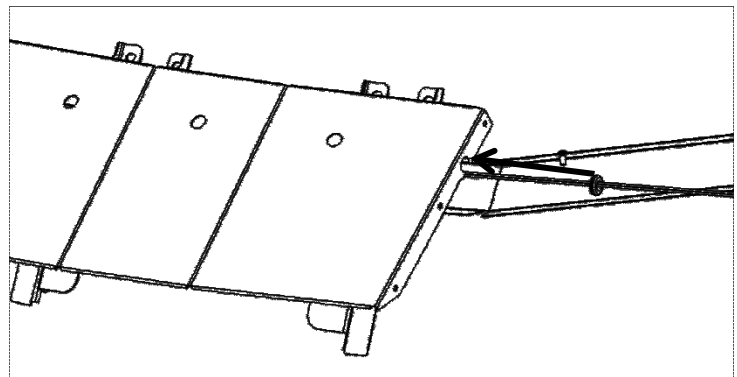

Figure 10
- ii. Slide grommets (on WH-EX) into side of center visor section (see figure 10).